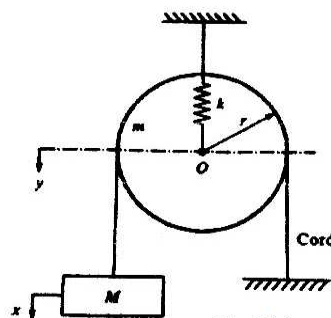

Fig 2(b)
- b. Find the natural frequency for the spring mass pulley system shown in Fig. 2(b) assuming the cord inextensible and there being no slip between the chord and the pulley.